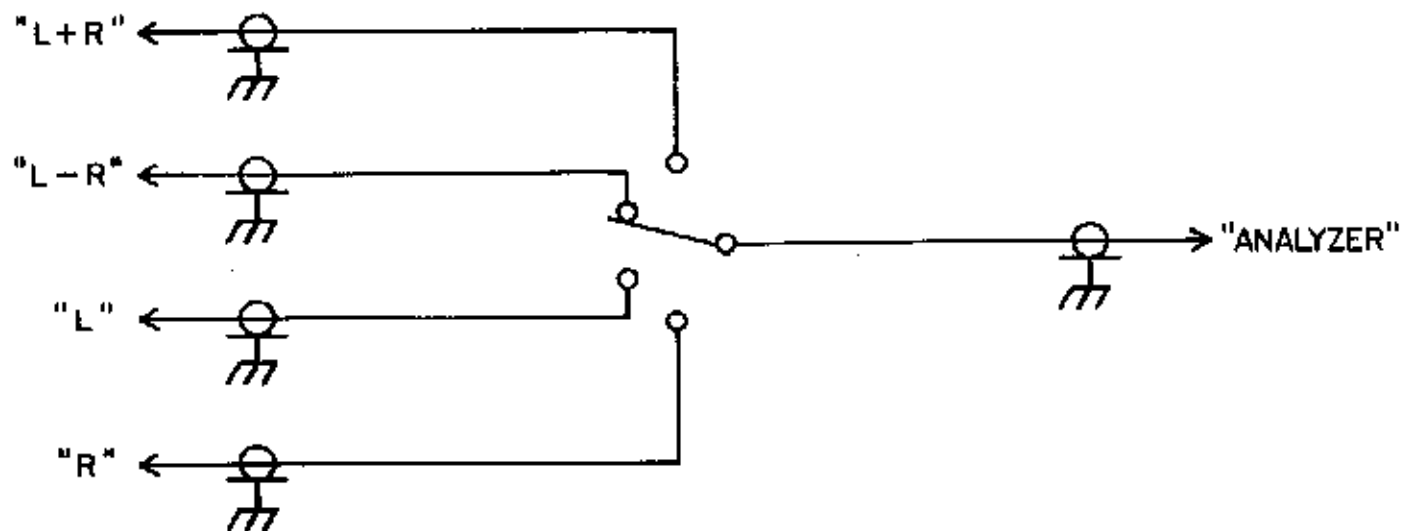

FIGURE 3-2
2. A device for selecting the Monitor outputs to feed the distortion analyzer, such as the one shown schematically in Figure 3-2. Again, this switching can be done by hand if necessary.